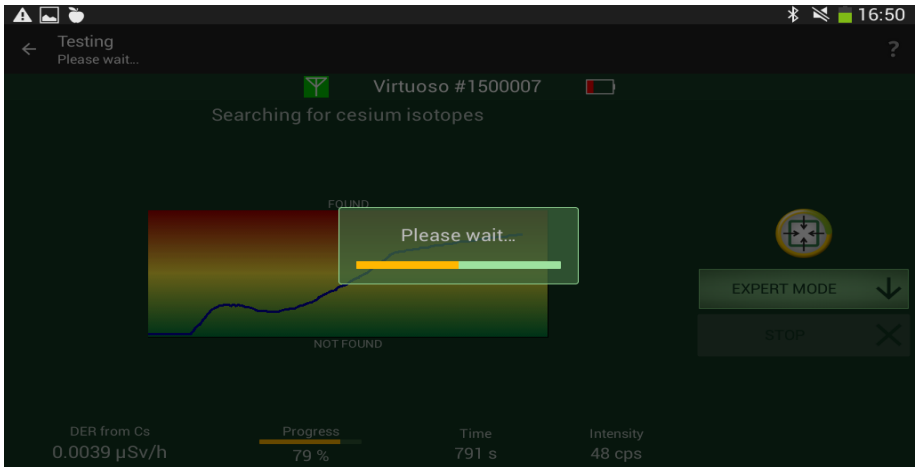

Figure 2.51 – Result correction
2.6.3.9 The result will be much more reliable if we continue measurement after 100% by tapping "CONTINUE SEARCH". If you stop measurement by tapping "STOP" button, you will see the following message (see Fig. 2.51). If after this interruption (during which the result correction takes place) measurement time is prolonged, the measurement result will become even more accurate.